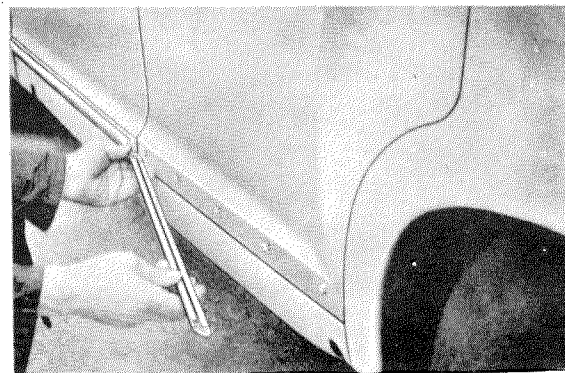

Fig. 72—20/1
2. Installation is the reverse of the removal procedure; replace damaged clips (Fig. 72—20/1).